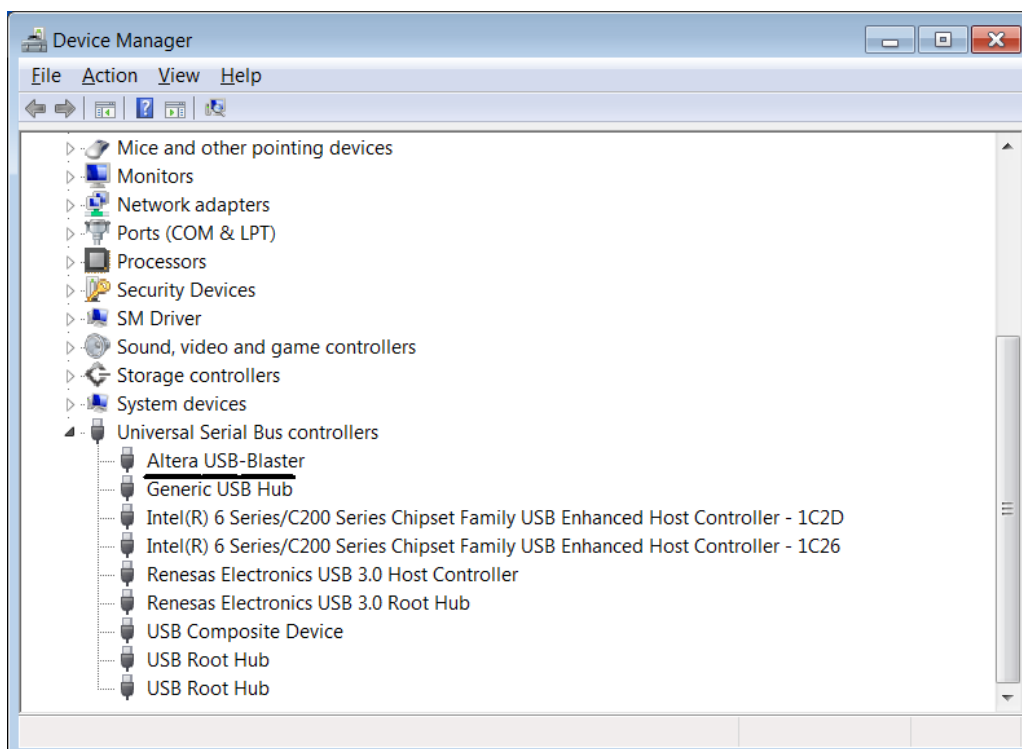

Figure 2: Altera USB Blaster
2. The installation package does include the driver for the USB Blaster device. The device driver, however, does not automatically installed during the installation of the Altera toolchain. To install the device drive, go to the "Device Manager" and reinstall the drive, as shown in Fig. 2. When reinstalling the driver, locate the driver at directory: *c:\altera\12.1sp1\quartus\drivers\usb_blaster*.